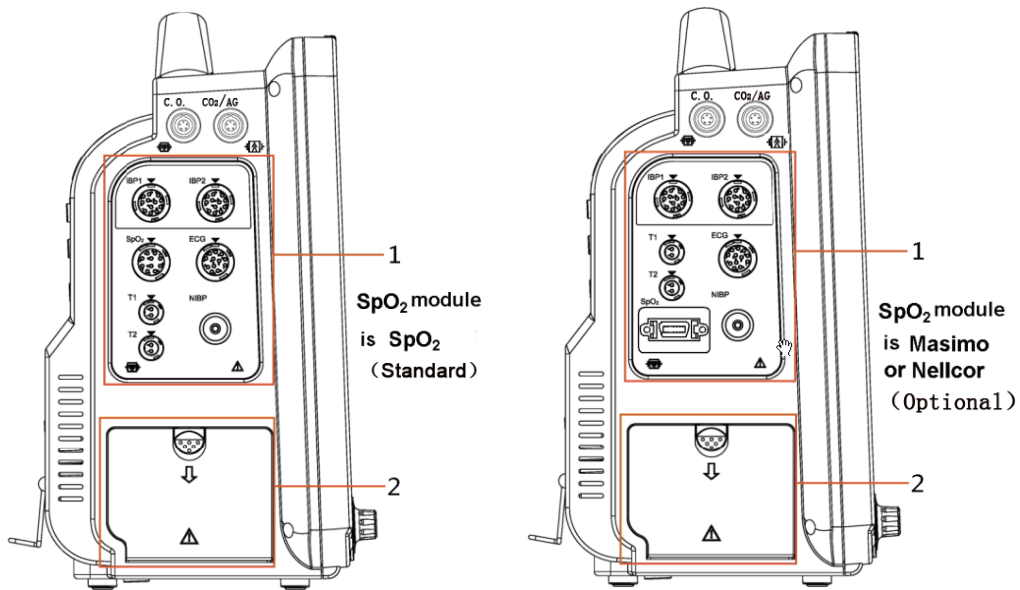

Figure 2.3 Left Side View of 12 Inches Monitor
For the convenience of operation, different interfaces are placed on different sections of the monitor. The cable and probe insertion points are placed on the left side of the monitor, as shown in Figure 2.3 (12 inches monitor) /2.4 (15 inches monitor).
- All the side view structure below, please take the left picture in Figure 2.3/2.4 as example.